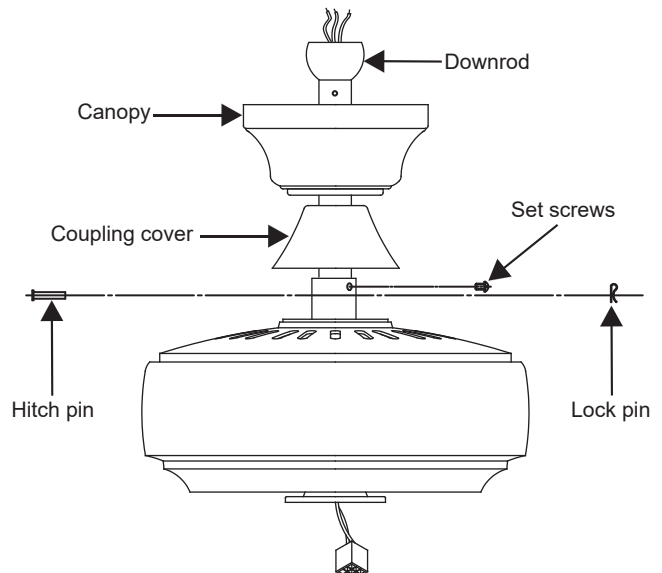

Figure 6
Step 4. Route wires exiting from the top of the fan motor through the canopy, coupling cover and then through the ball/ downrod. (Fig. 6)
Step 5. Align the holes at the bottom of the downrod with the holes in the collar on top of the motor housing (Fig.6). Carefully insert the hitch pin through the holes in the collar and downrod. Be careful not to jam the pin against the wiring inside the downrod. Insert the locking pin through the hole near the end of the hitch pin until it snaps into its locked position, as noted in the circle inset of Fig. 6.
Step 6. Tighten two set screws on top of the fan motor firmly. (Fig. 6)